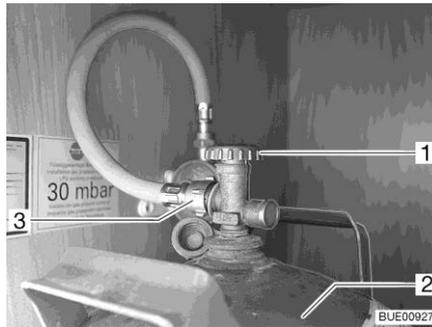

Fig. 181 Gas bottle compartment
- Close the regulator tap (Fig. 181,1) on the gas bottle (Fig. 181,2). Pay attention to the direction of the arrow.
- Unscrew the gas tube (Fig. 181,3) from the gas bottle.